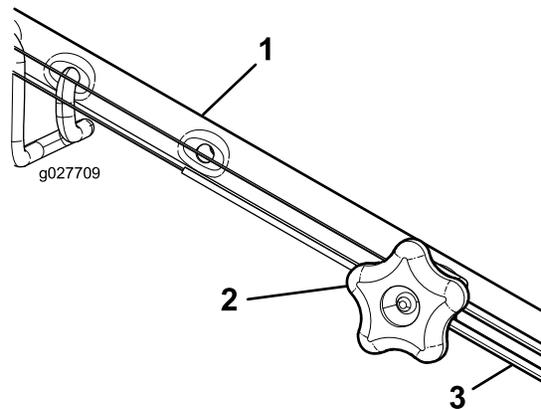

Figure 38
- Turn the adjustment knob counterclockwise to loosen the cable adjustment (Figure 38).
- Adjust the tension on the cable (Figure 38) by pulling it back or pushing it forward and holding that position.